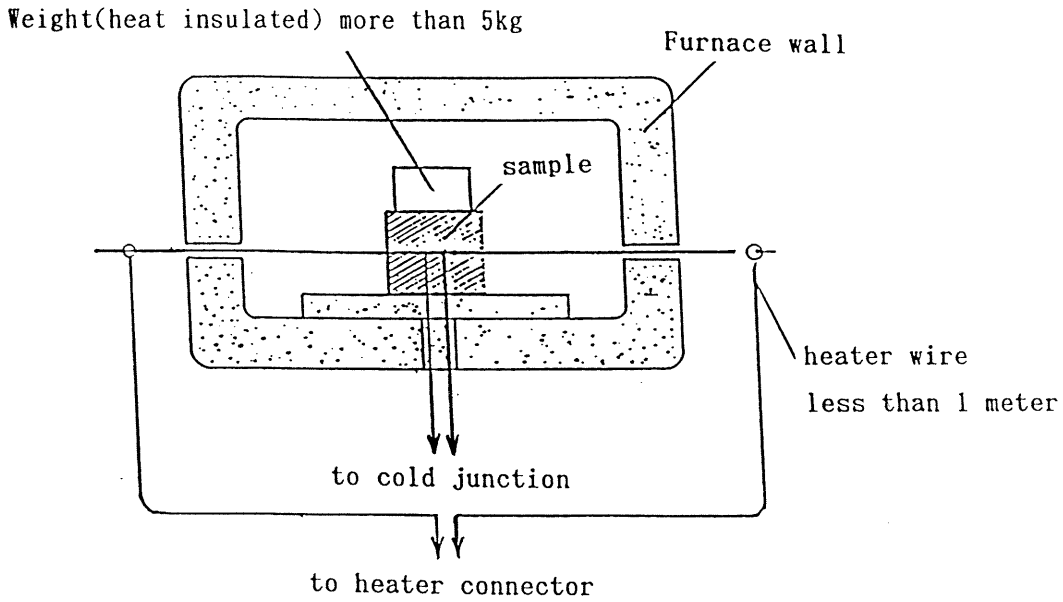

Fig 10. Sample inside Electric furnace
- ① A sample which reacts with thermocouple or heater wire inside furnace at high temperature will change its character and cannot be measured.
- ② A sample like carbon which reacts with oxygen at high temperature needs to be measured in inactive gas environment inside the furnace.
- ③ A sample which will generate heat and become unstable cannot be measured.
- ④ Use alumina glass tubes for protection and electrical insulation of thermocouple and heater.
- ⑤ Take sufficient wait time even after temperature reaches selected degree and start measurement only after confirming the temperature inside the furnace is stabilized.
- ⑥ Refer to Fig 10 on how to set sample inside the furnace.
- ⑦ Arrange the length of heater wire to be less than 1 meter inside the furnace.
- ⑧ Remove plastic cover around the weight(optional) before it is used.